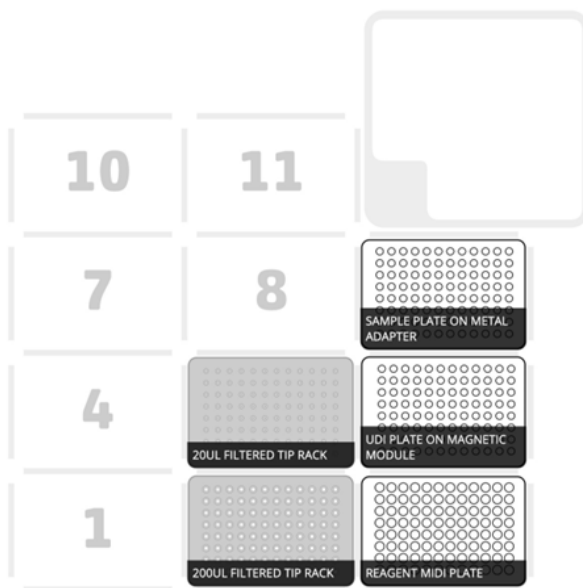

Figure 5. Deck map for Post 1 – Enrichment protocol.
- h. Load reagents and other labware onto the deck as shown in the deck map (also shown in Figure 5 on the facing page).
- j. Load reagents and other labware onto the deck as shown in the deck map (also shown in Figure 5).